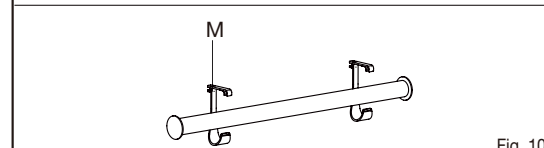

Fig. 10
- ☐ Position closet rod assembly at desired location and snap into closet rod brackets (M) (see Fig. 10 and Fig. 11).